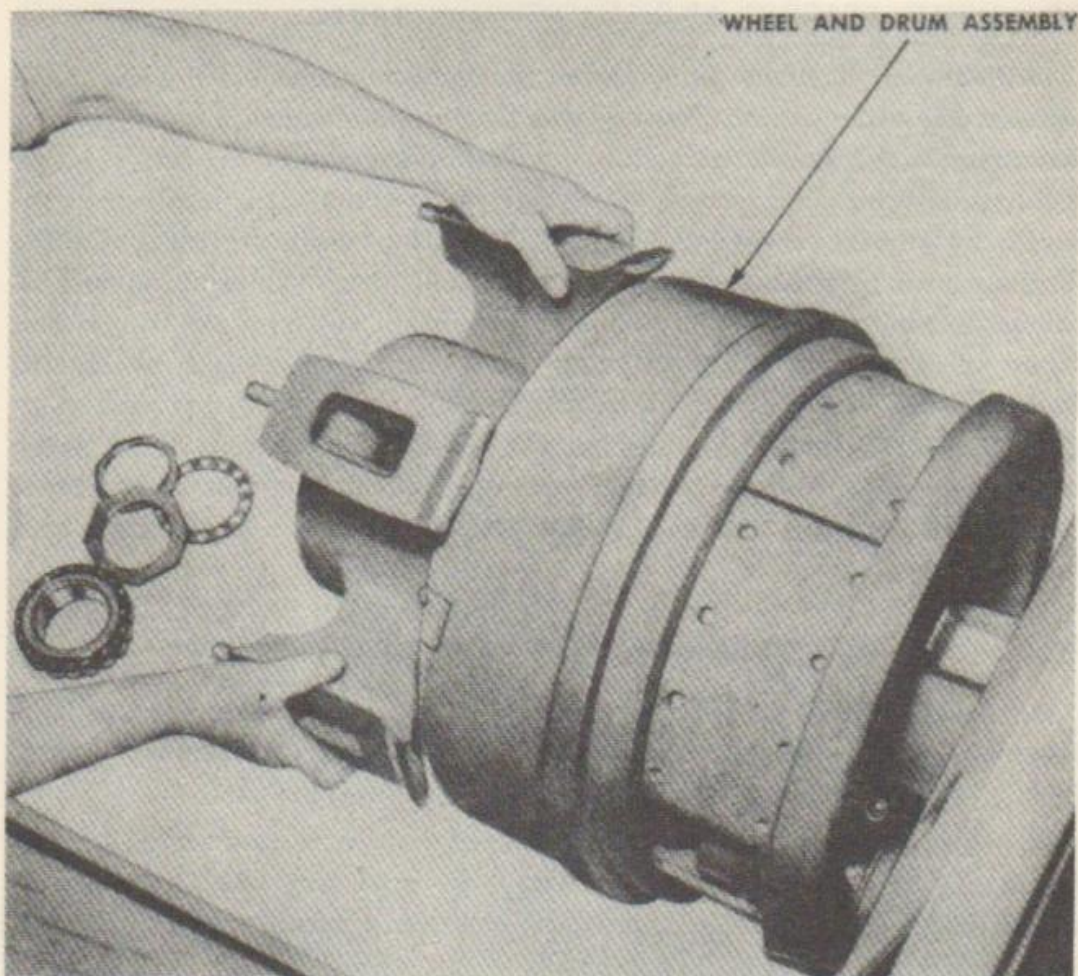

FIGURE 53. REMOVING WHEEL AND DRUM ASSEMBLY—SEMITRAILER
a. Removal (figs. 53 and 60). Remove inner and outer tire and rim assembly (para. 78 a.). Remove the outer bearing assembly (para. 74 a.), and lift the assembly off trunnion axle spindle.